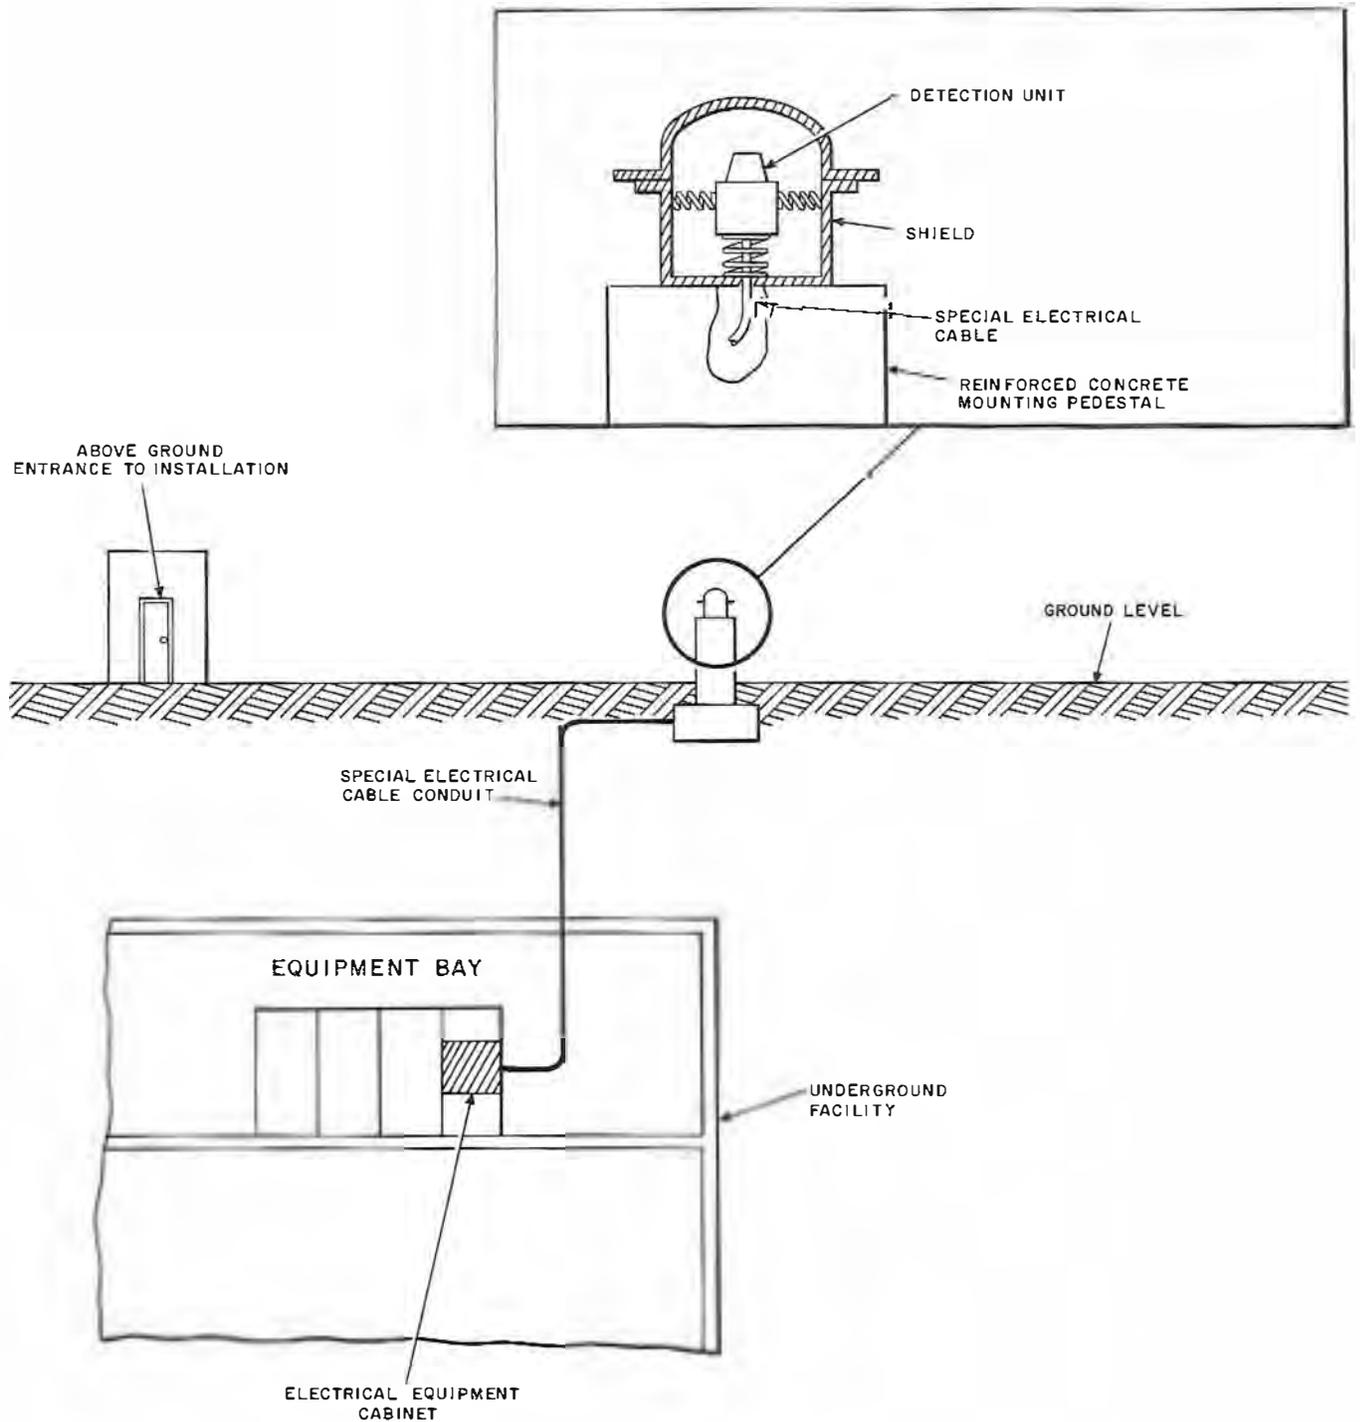

Fig. 4—Typical KS-19557 Detector Installation
2.05 The general location of the components of the KS19557 Detector is shown in Fig. 4 which depicts a typical hardened communications facility. Detailed installation information for the detector is given in KS-19557 Nuclear Blast Detector Installation Drawing, B-995326.